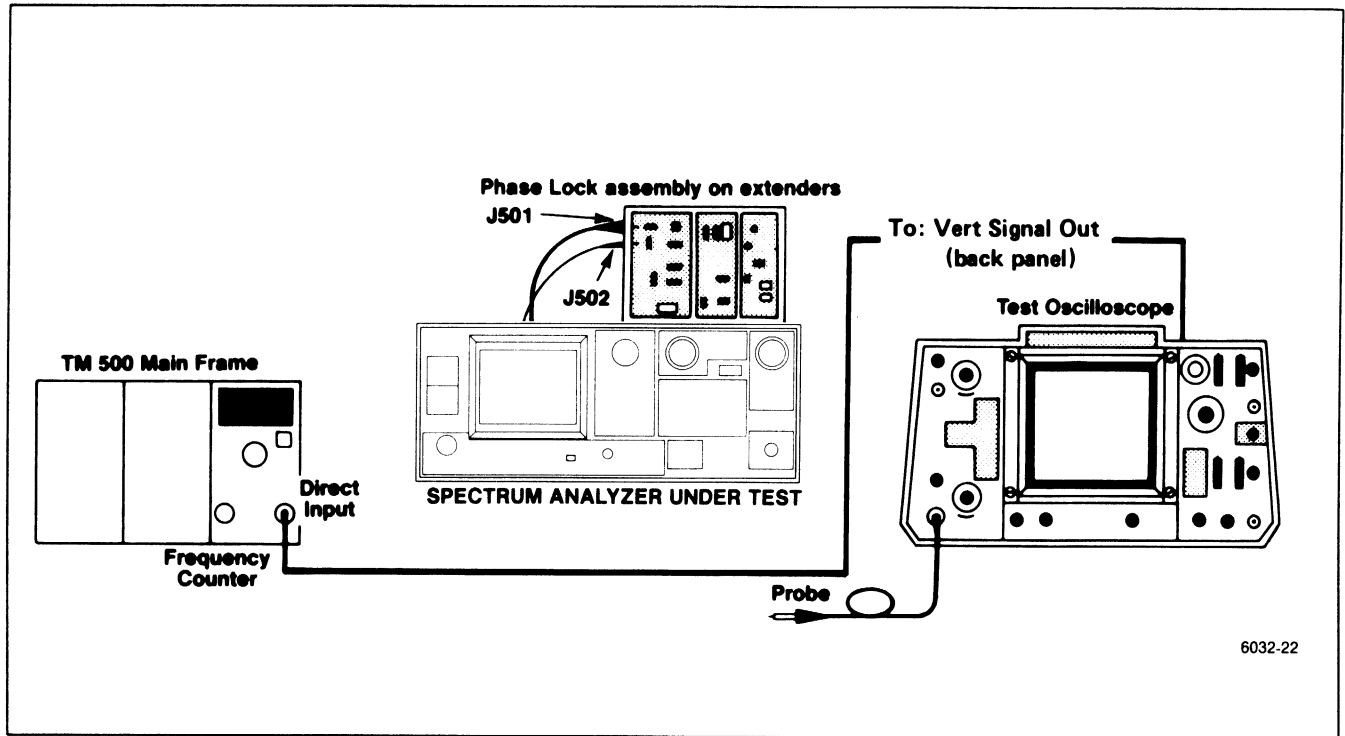

Figure 5-22. Test equipment setup for adjusting the Phase Lock assembly.
a. Test equipment setup is shown in Figure 5-22. Remove the Phase Lock module and the two cover plates so all circuit test points and adjustments are accessible. Plug the assembly on extender boards and into the instrument. Use extender cables and adapters to reconnect signal cables to their respective connector (cable with yellow band to J501, and the cable with black band to J502).